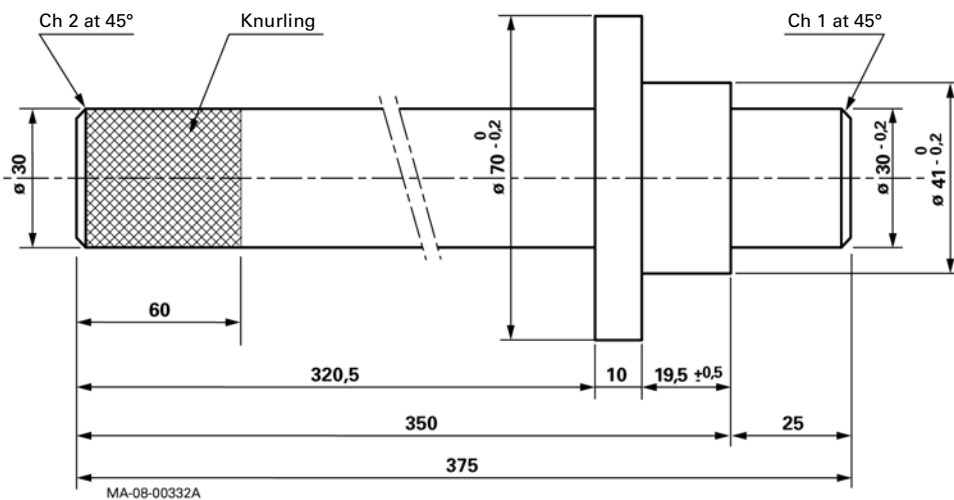

Fig. 14
3. Ring fitting drift (Fig. 14)